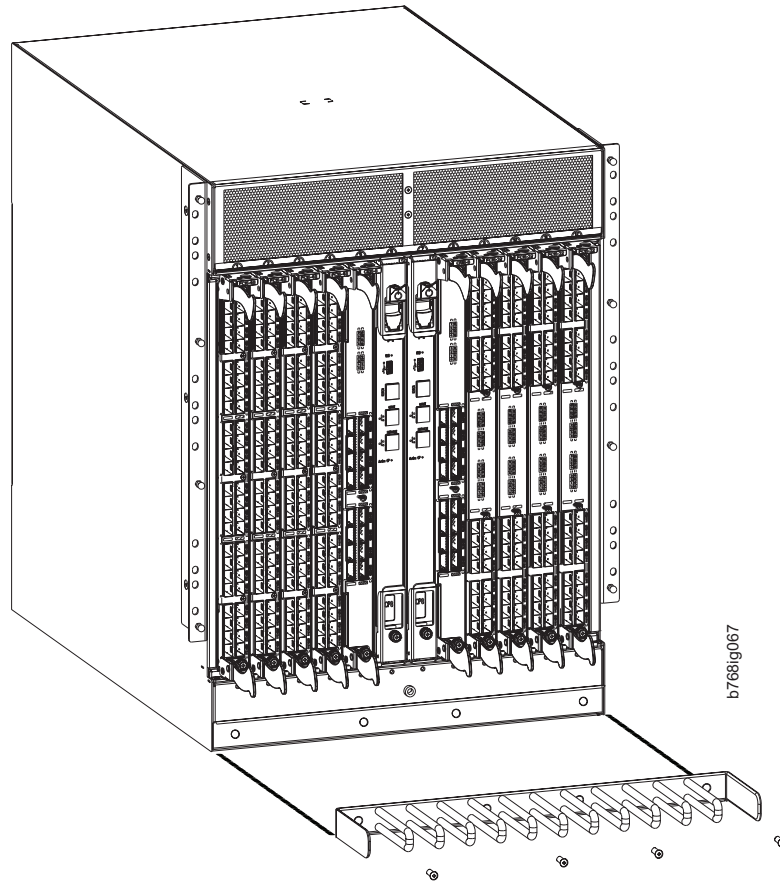

Figure 30. Cable management comb
3. Unscrew and save the four screws holding the comb to the chassis (see Figure 30). Support the comb to prevent it from falling.